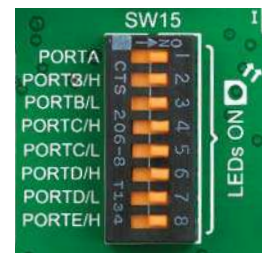

Figure 6-6: SW15.1 through SW15.8 switches are used to enable PORT LEDs
specified by the manufacturer. The current varies from 0.2mA to 20mA, depending on the type of the LED and the manufacturer. The EasyMx PRO™ v7 for STM32 board uses low-current LEDs with typical current consumption of 0.2mA or 0.3mA. Board contains 67 LEDs which can be used for visual indication of the logic state on PORT pins. An active LED indicates that a logic high (1) is present on the pin. In order to enable PORT LEDs, it is necessary to enable the corresponding DIP switch on **SW15** (**Figure 6-6**).